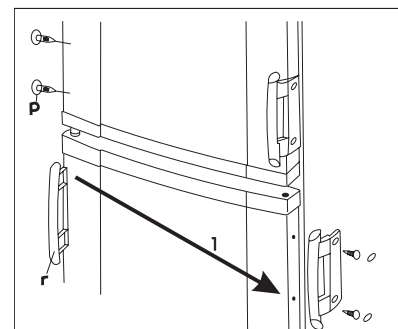

fig. 5.
- Put over the handles (r) on the other side and put the plastic covering nails (p) supplied in the plastic bag of this instruction book into the holes set free. (fig. 5)